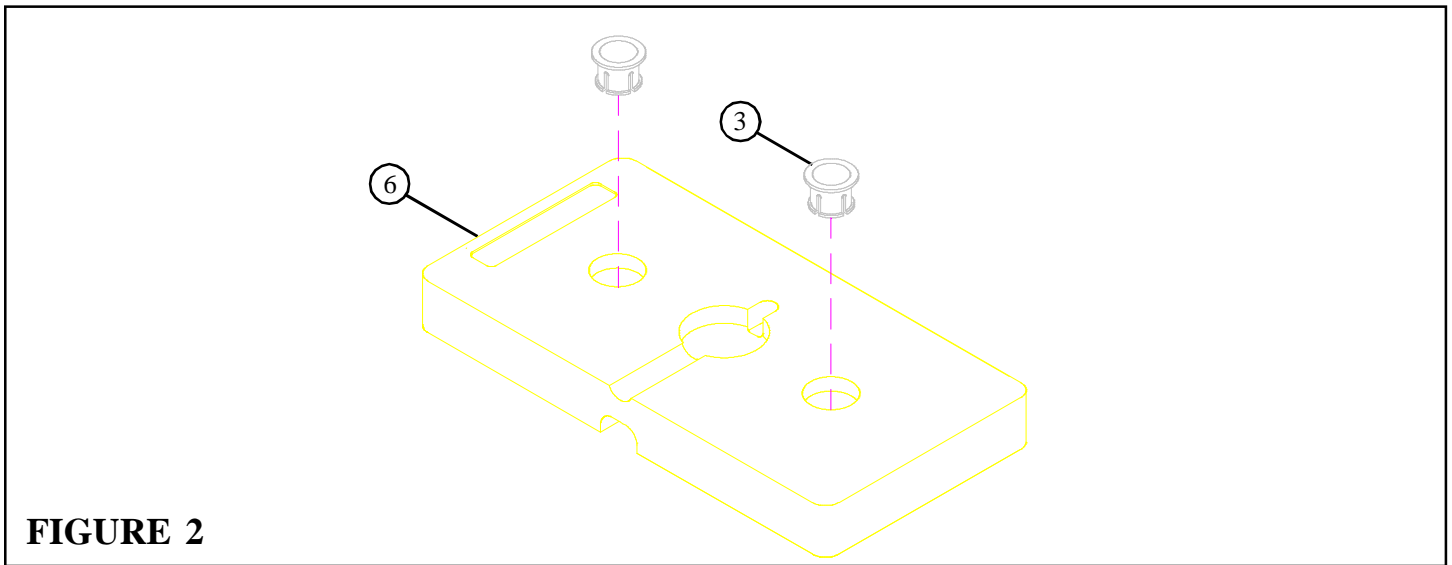

FIGURE 2
- Snap two WEIGHT PLATE BUSHINGS (3) into the top of all five WEIGHT PLATES (6) as shown in FIGURE 2.